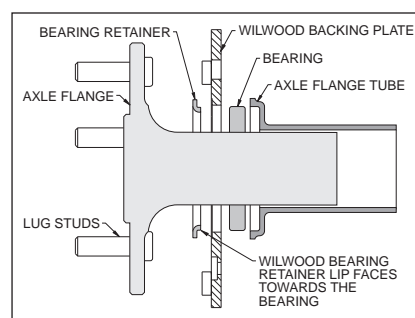

Figure 3. Retainer / Axle Diagram
- Axle center register diameter is 2.80", Figure 3. This kit uses Wilwood's removable center register adapters. Rotors can either be centered on the axle register, i.e. *register-centric* or centered on the wheel studs, i.e. *stud-centric*. Due to variations in wheel stud final diameters, *register-centric* centering can be a more accurate method of centering the rotor to the axle. Wilwood offers various diameter adapters for purchase in addition to the ones supplied in this kit, see Table 1.